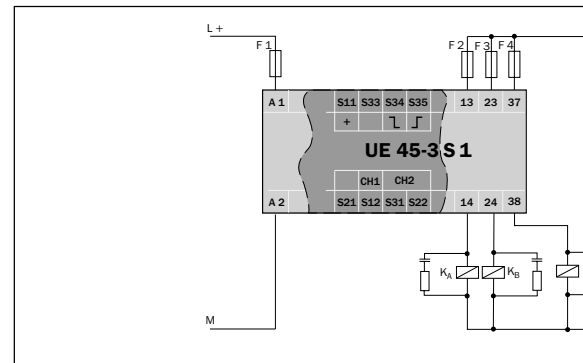

Fig. 2: Basic circuit: voltage supply, 3 channel output circuit, of which 1 is a release delayed
- To prevent fusion of the contacts of the installed relays, an electrical current overload circuit inceptor (fuse) rated to provide protection from short-circuiting to max. 6 A (Operation Class gG) is to be incorporated in the electrical output circuitry (refer to Fig. 2, fuses F 2 / F 3 / F 4).